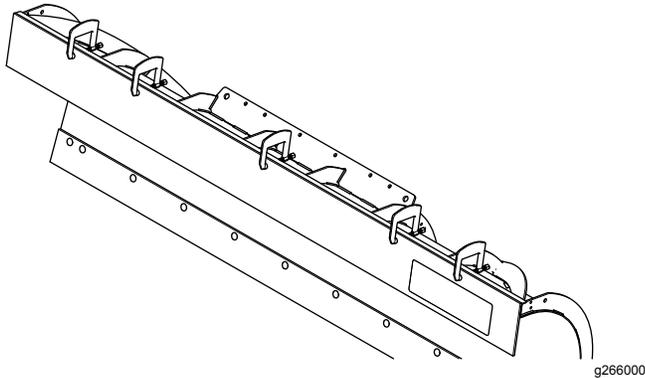

Figure 1
- Clamp the belting to the top edge of the plow blade (Figure 1).